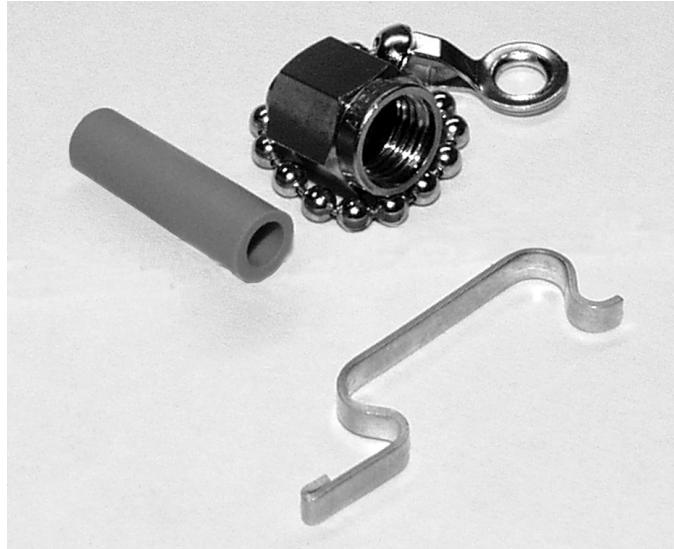

Figure 6-2. Fiber Optic Covers and FAP-I Anode/Cathode Shorting Clip
2. A shorting clip (Figure 6-2) must be installed between the anode and cathode terminals to avoid inadvertent ESD before the leads are disconnected from the terminals.
3. When disconnecting the fiber optic cable from the FAP-I assembly, a cap (Figure 6-2) must be installed over both the FAP-I optical emission port and the end of the fiber optic cable to protect them from accidental damage or contamination.
1. Install shorting clip (Figure 6-2) between anode and cathode of FAP-I assembly to be removed. Disconnect the anode and cathode connectors, see Figure 6-3.
- c. Immediately install the two plastic protective caps, one over the end of the fiber cable and the second over the FAP-I optical output port (Figure 6-2).